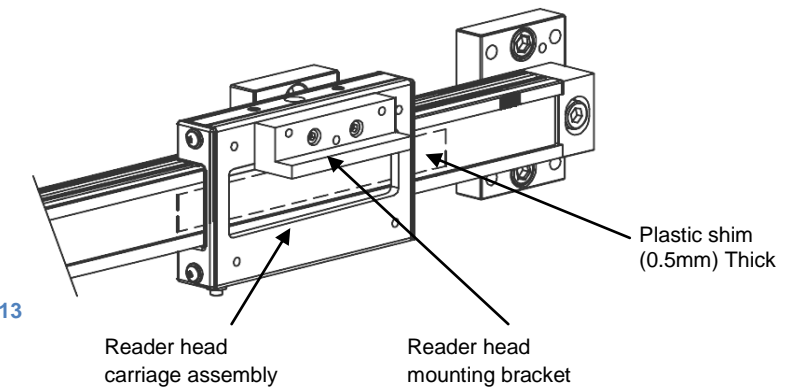

Figure 13
- Bring the carriage assembly to one end insert the 0.5mm plastic shim provided in guiding assembly under the reader-head. Figure 13.